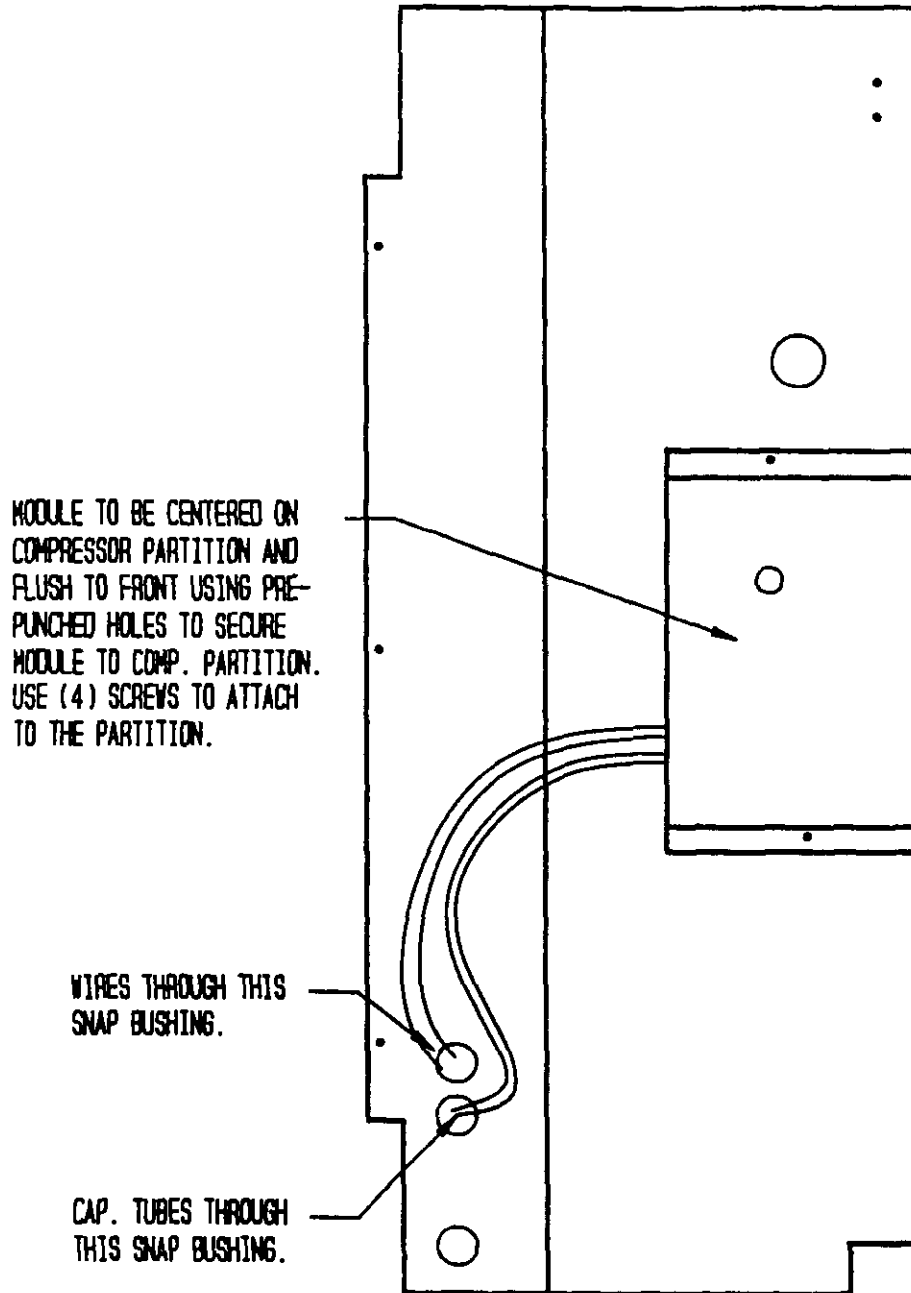

FIGURE 4
Install the basic control enclosure to the left of the control panel in the air conditioner models and behind the control panel in the heat pump models (see Figure 4). Secure the control enclosure to the base with (2) #10-16 x 1/2 screws provided in hardware bag.